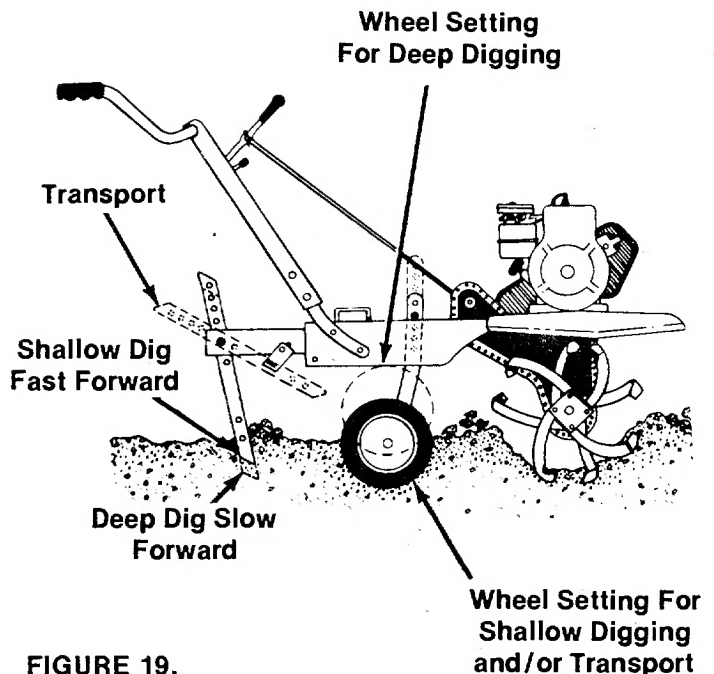

FIGURE 19.
2. Depth Bar Adjustment: The depth bar acts as a brake for the tiller and controls the depth and speed at which the machine will operate. See figure 19.